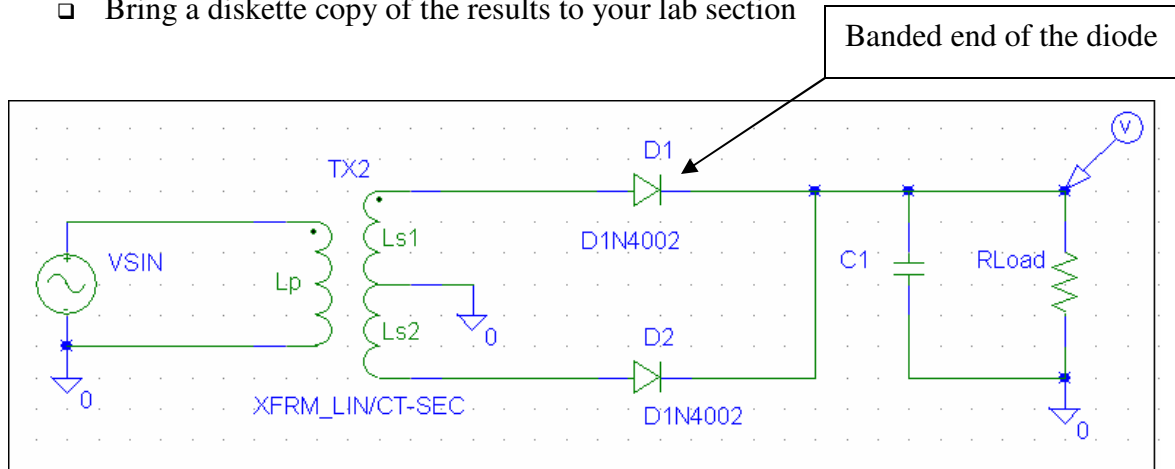

Figure 2 – PSPICE Schematic of the Full-Wave Power Supply
- ❑ Create the PSPICE circuit, shown in Figure 2 below. Include your calculated values for **C**, and the **1K Ω** resistor **RLoad**
- ❑ Build the full-wave power supply circuit, shown in Figure 2 above, using your calculated value for **C1**